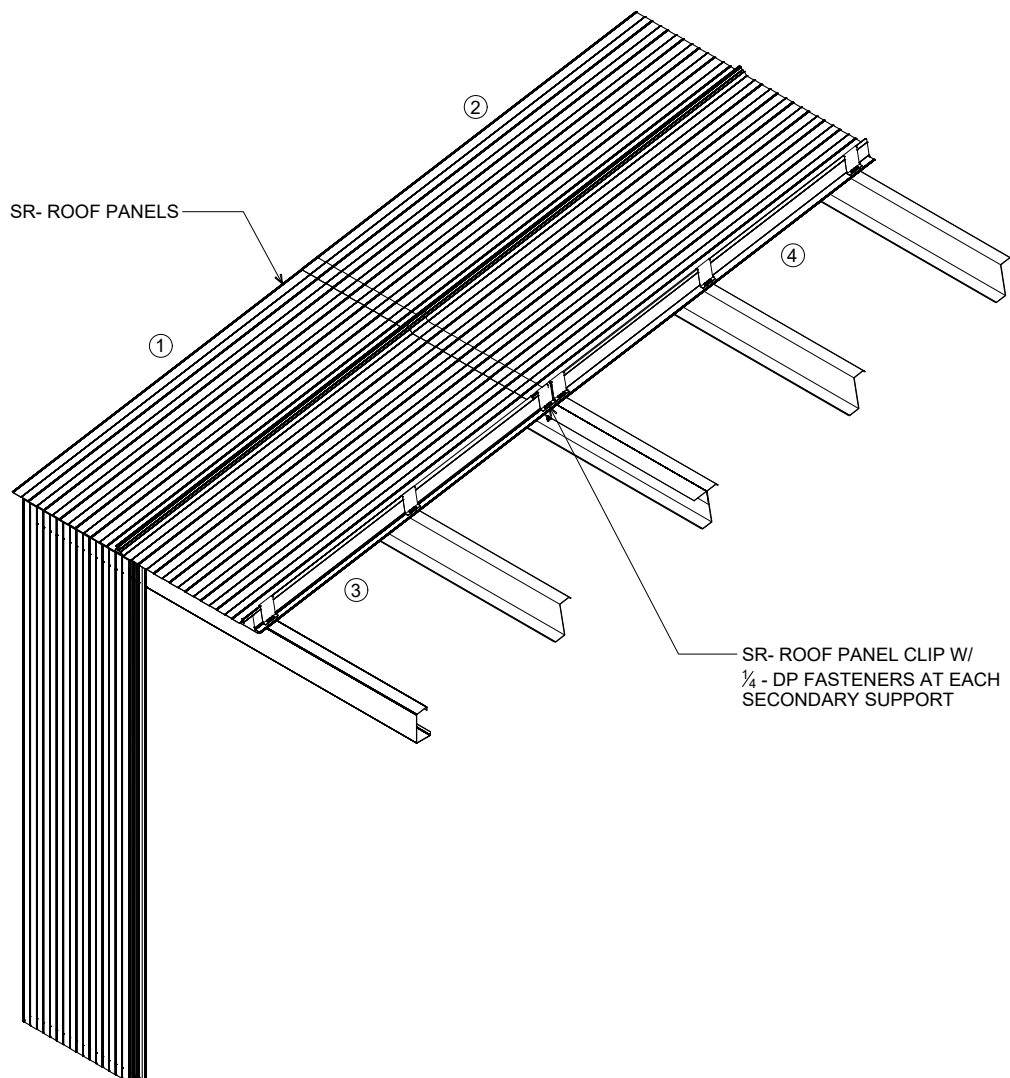

FIGURE 5
11.2 SR2 ROOF PANELS MUST BE INSTALLED IN A SPECIFIC SEQUENCE. THIS ENSURES THE CORRECT LAPPING OF THE SIDE AND END LAPS (SEE FIGURE 5, BELOW). THE PANEL NUMBERS CORRESPOND TO THE ORDER OF INSTALLATION.